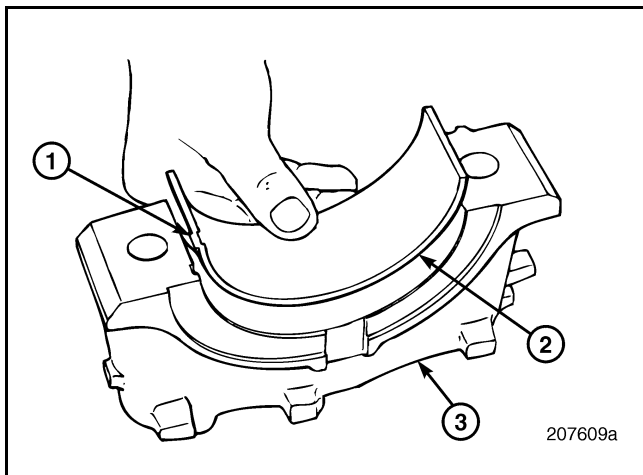

Figure 323 — Main Bearing Installation (Lower)
2. Install the bearing insert in the bearing cap bore (Figure 323). The insert must be installed dry.